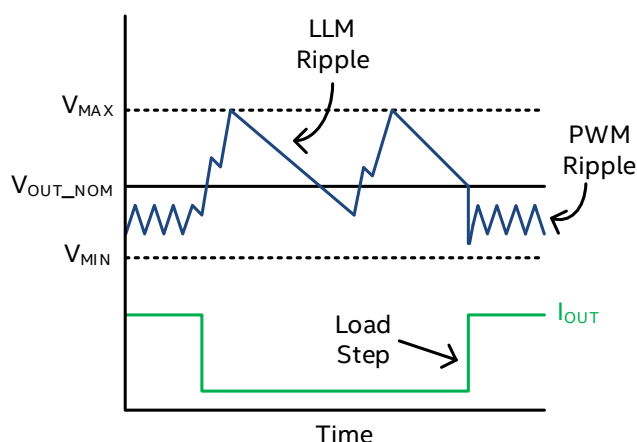

Figure 5: Light Load Mode Operation Illustration
- (1) Step V_{OUT} up by approximately 1.0% above the nominal operating output voltage setting, V_{NOM} and as low as -0.5% below V_{NOM} , and then
- (2) Shut down unnecessary circuitry, and then
- (3) Monitor V_{OUT}
When V_{OUT} falls below V_{NOM} , the device will repeat (1), (2), and (3). The voltage step-up, or pre-positioning, improves transient droop when a load transient causes a transition from LLM mode to PWM mode. If a load transient occurs, causing V_{OUT} to fall below the threshold V_{MIN} , the device will exit LLM operation and begin normal PWM operation. Figure 5 demonstrates V_{OUT} behavior during the transition into and out of LLM operation.